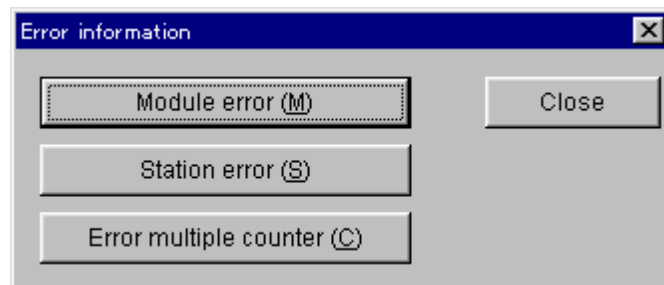

Figure 3-13 [Error information] Window
- (1) Click the **Module error** button on the [Error information] window (Figure 3-13).
- (1) Click the button on the [Error information] window (Figure 3-13). Then, the [Station error] window is displayed.
- (1) Click the **Error multiple counter** button on the [Error information] window (Figure 3-13). The [Error multiple counter] window is displayed.